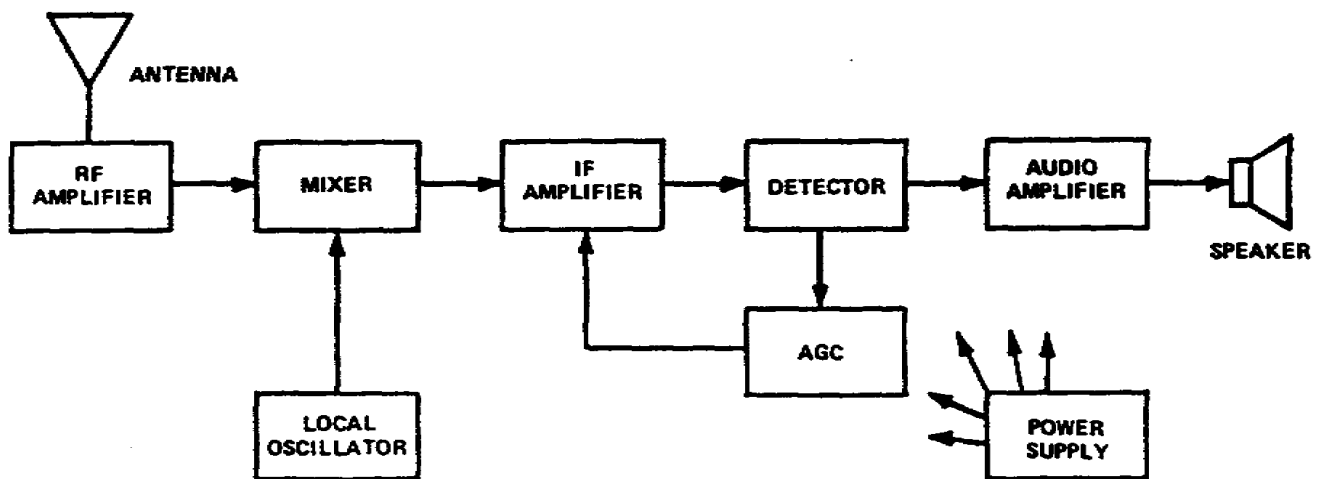

Figure 4-2. The heterodyning process produces four signals through the action of the mixer stage
3. Heterodyne Process. Figure 4-2 is a block diagram of a superheterodyne radio-receiver. This receiver produces a carrier at a new frequency, keeping the information being transmitted unchanged.
a. To help you understand how the superheterodyne radio works, look at the section of the radio in which all of the tuning and station selection occurs (consists of the RF amplifier, the mixer, and the local oscillator). This section of the receiver receives the signal being broadcast, heterodyne this signal with the one that is produced in the local oscillator and a third signal is produced called the Intermediate Frequency (IF) signal. This IF signal is processed through the radio and soon the original broadcasted information is heard coming out of the speaker.
b. Figure 4-2 illustrates two carrier signals being mixed in the superheterodyne system (receiver). F_1 and F_2 will be heterodyned in the mixer block of the receiver, and the result is the production of four signals. They are: F_1 at 1.5 MHz, F_2 at 1 MHz, the sum of the two signals ($F_1 + F_2$) or 2.5 MHz, and the difference of the two signals ($F_1 - F_2$) or 0.5 MHz. If, however, the incoming signal at F_2 was modulated, then both the sum and the difference signal would contain modulation.
a. The superheterodyne radio has several particular functions (fig 4-2). All of the functions are similar regardless of the components used in the radio. Therefore, whether the radio was a transistor solid-state or a vacuum-tube type, they both use the same functional diagram. We can go on to say that the electronic signal received from the transmitting source or station are processed the same whether the radio is transistorized or vacuum tube.